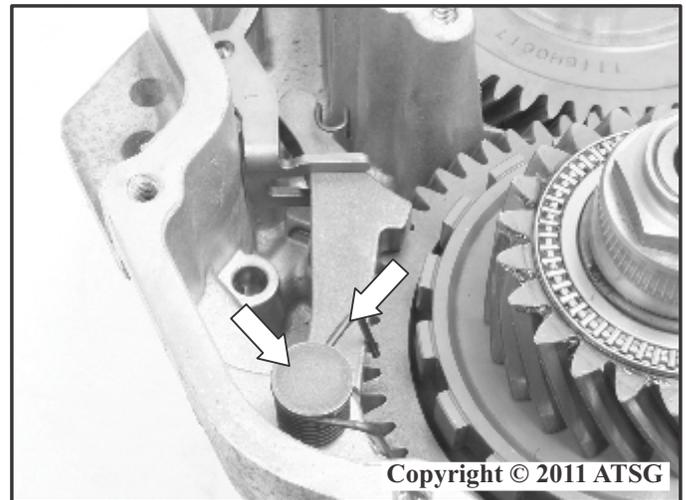

Figure 41
53. Remove the parking pawl retaining shaft by lifting straight up as shown in Figure 41.
54. Remove the parking pawl retaining shaft return spring as shown in Figure 41.